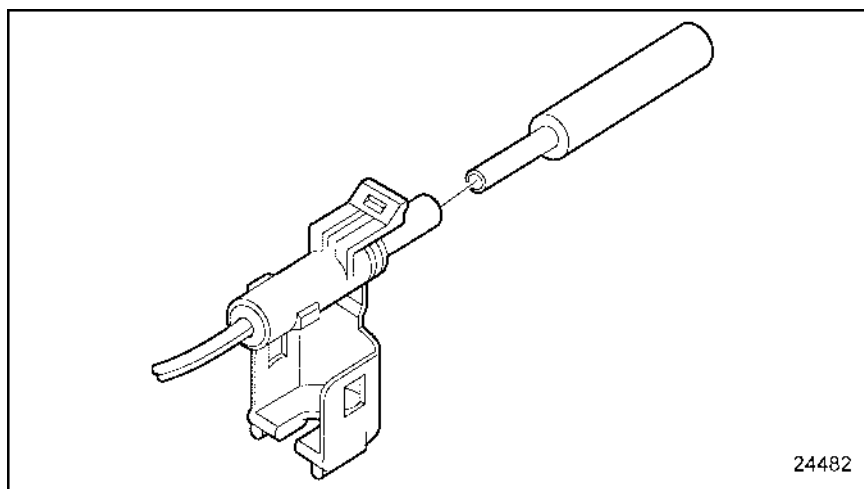

Figure 3-36 Removal Tool Procedure
2. Insert the removal tool straight into the front of the connector cavity until it rests on the cavity shoulder. See Figure 3-36.